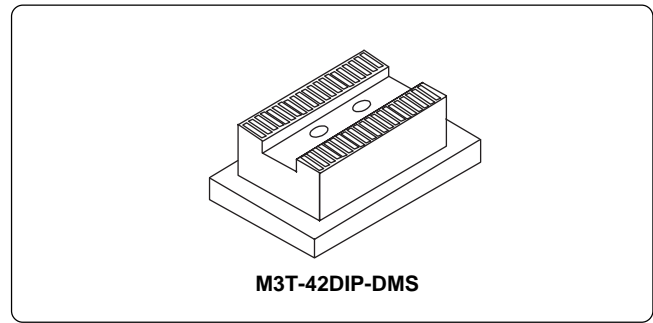

Figure 1 Package component of the M3T-42DIP-DMS
2. Package Components (see Figure 1)